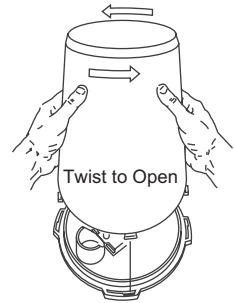

Figure 4. Remove Rain Collector Cone
5. Remove the rain collector cone from the ISS base by rotating the cone counter-clockwise. When the cone's latches line up with openings in the base, you can lift the cone off. The cone fits in the base tightly and may require extra pressure to remove the first few times. See Figure 4.